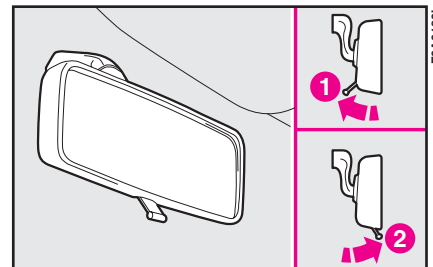

fig. 64
**This mirror can be adjusted by means of lever A-fig. 64**